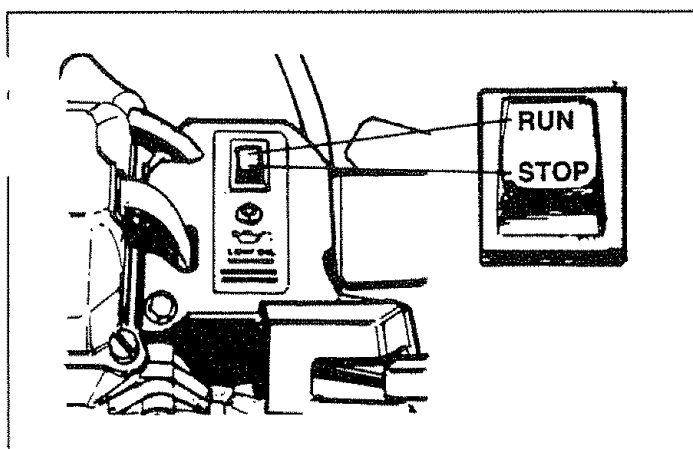

FIG. 19
- Locate the Run/Stop switch (Fig. 19 on Page 13) next to the engine cylinder head and set it to RUN.